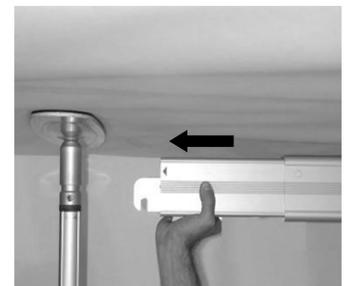

Figure 27
- Raise the rail slightly, and then extend the rail to the second post (see Figure 27).